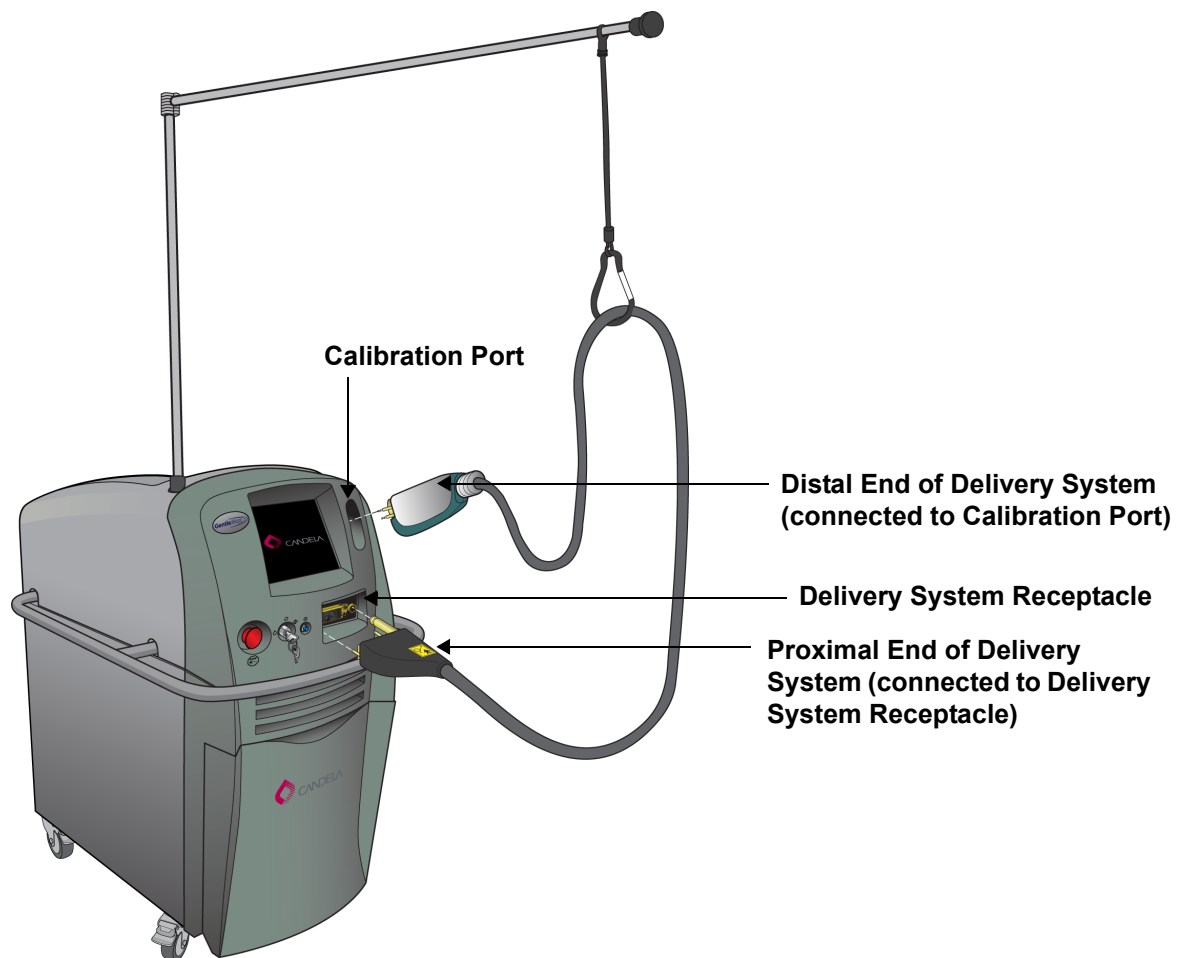

Figure 2-18: Install Delivery System Cable into the Laser System
Figure 2-18 shows how to connect the two ends of the Delivery System Cable to the front of the laser system. Both connectors are keyed and have orientation marks to ensure they are connected correctly.
1. Insert the proximal end of the Delivery System cable into the Delivery System Receptacle (see **Figure 2-18**).
2. Insert the distal end Handpiece of the Delivery System cable into the Calibration Port (see **Figure 2-18**).